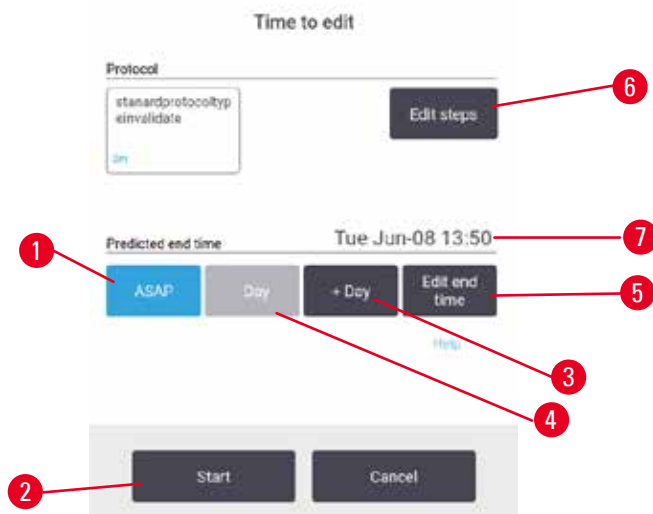
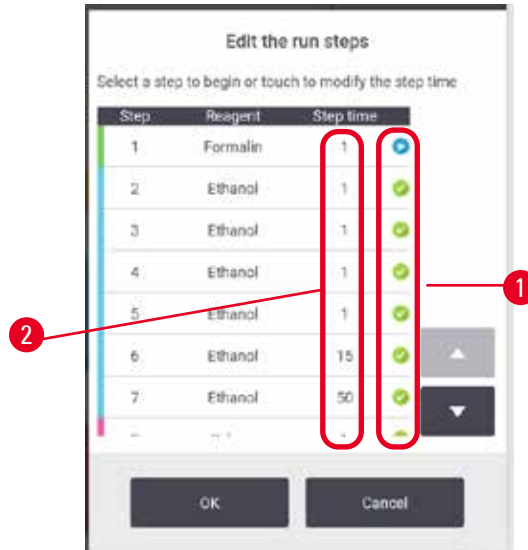

Fig. 53
Fig. 55
You schedule a protocol run in the **Time to edit** dialog box (→ Fig. 53). The dialog box opens after you have loaded the protocol, input baskets ID, and input the number of cassettes (→ p. 82 – 5.5.2 Changing the starting step for a single run).
1. Start a protocol run as normal from the **Status** screen and continue until the **Time to edit** dialog box (→ Fig. 53) opens. Tap **Edit steps** (→ Fig. 53-6) to open the **Edit the run steps** dialog box (→ Fig. 55).